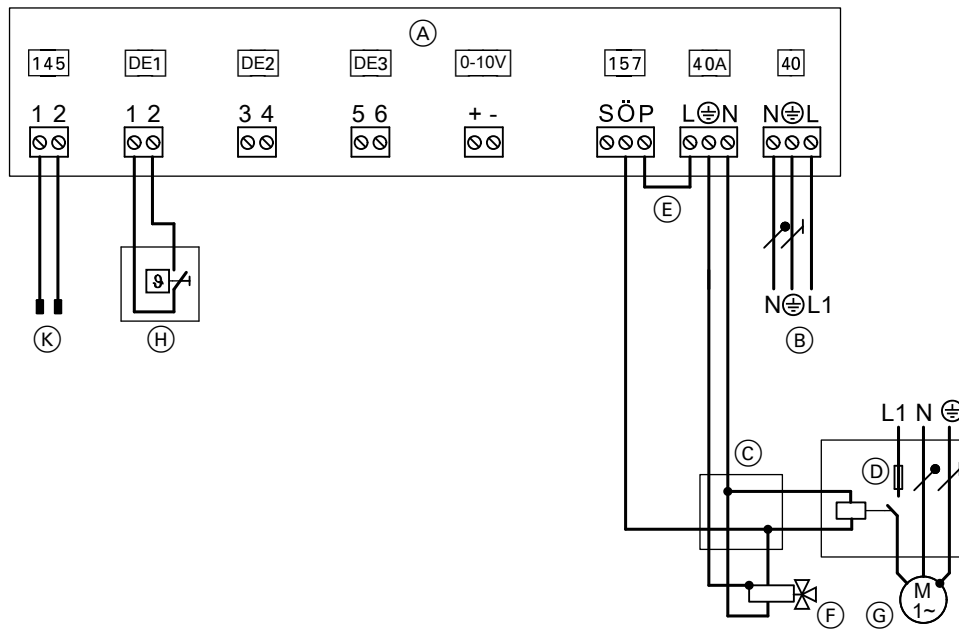

Fig. 36
- Make connections to EA1 extension **only** in accordance with Fig. 36.